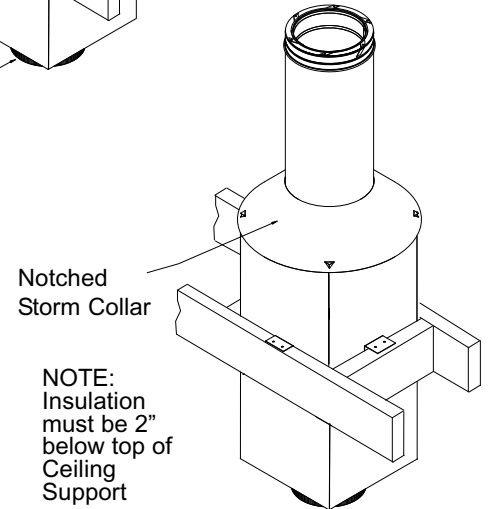

Figure 3
5. Wrap the notched Storm Collar snug to the chimney. Bend outward the 4 V-shape notches and position over each corners of the Ceiling Support (SCSAIS). See Figure 3. Note: To secure storm collar, engage tabs into slots and bend tabs over.